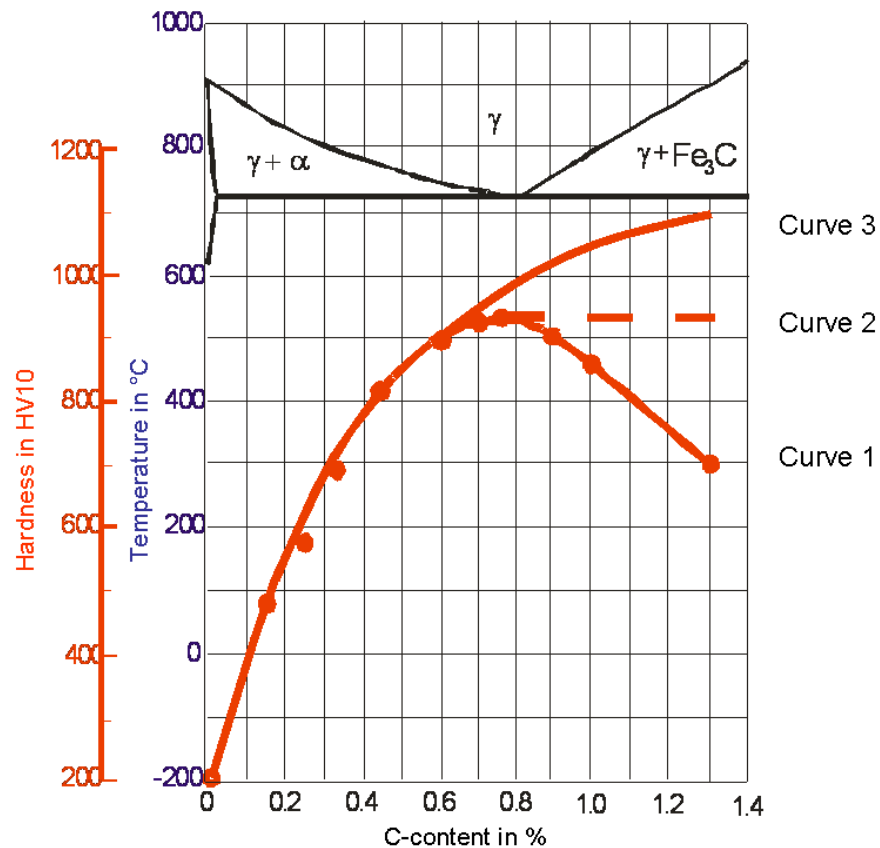

Figure 1
- a) Add in **Figure 1** the martensite start temperature M_s and the martensite finish temperature M_f ! (1,0 Points)
The results of the subsequent hardness measurements are shown as curves 1, 2 and 3 in **Figure 1**.